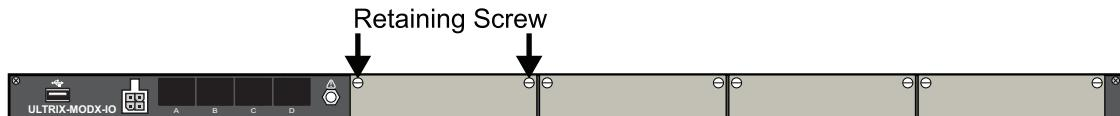

Figure 12 ULTRIX-MODX-IO — Location of Retaining Screws for a Slot
**Figure 12** shows the retaining screws for slot 1. The location of the screws on the blank plate is the same for all slots.